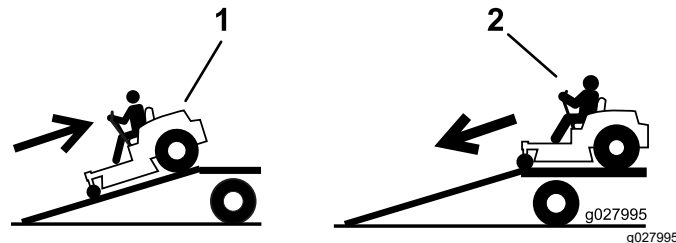

Figure 30
4. Back the machine up the ramp (Figure 30).
2. Drive the machine forward down the ramp (Figure 30).